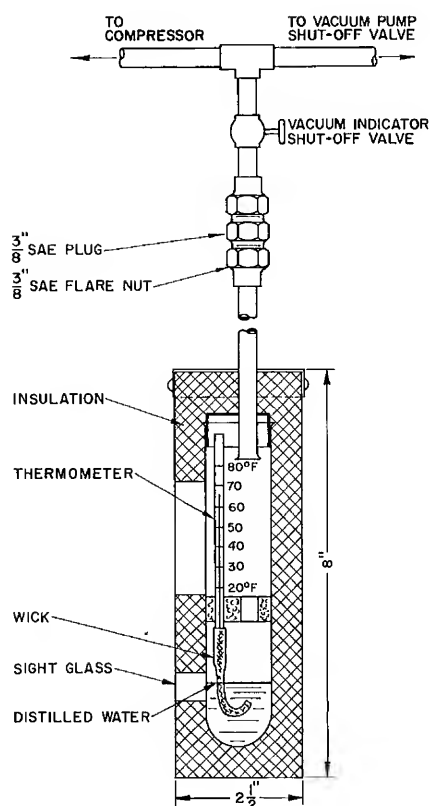

Fig. 20 - Vacuum Indicator
3. Obtain a vacuum indicator similar to that shown in Fig. 20 (available from Robinair Manufacturing Corporation, Edgerton, Ohio).
2. Install a shut-off valve in the suction line at the vacuum indicator (Fig. 20).